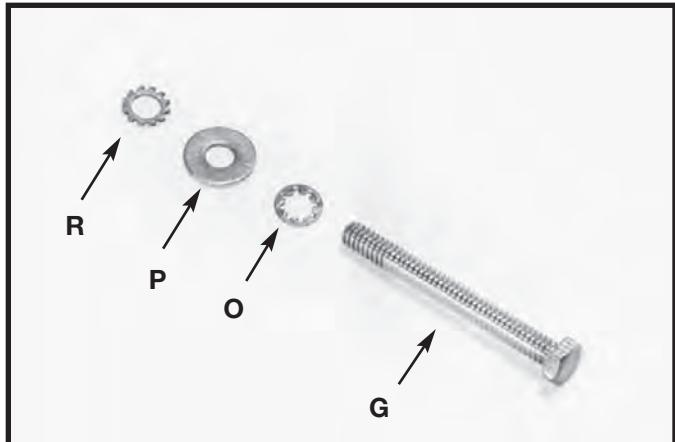

Fig. 10
- Locate the 1/4-20x2-1/4" hex head screw (G) Fig. 10. Place the 1/4" internal tooth lockwasher (O) M6.4 flat washer (P) and the 1/4" external tooth lockwasher (R) on the screw (G).